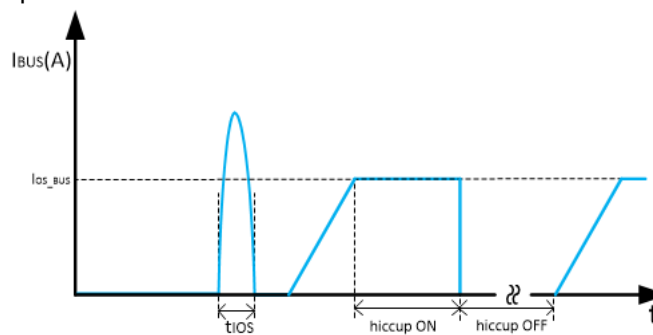

Figure 10-11. Response Time to BUS Short-Circuit
- The first condition is when a short circuit or overload is applied to the USB output when the device is powered up or enabled. There can be inrush current and once it triggers the approximate 8-A threshold, a fast turnoff circuit is activated to turn off the USB power switch within t_{IOS_USB} before the current limit control loop is able to respond (shown in Figure 10-11). After the fast turnoff is triggered, the USB power switch turns off for approximately 200 μ s, and restarts with a soft start. If the USB port is still in overcurrent condition, the short circuit and overload hold the output near zero potential with respect to ground and the power switch ramps the output current to I_{OS_BUS} . If the overcurrent limit condition lasts longer than 4.1 ms, the corresponding USB channel enters hiccup mode with 524 ms of off-time and 4.1 ms of on-time.